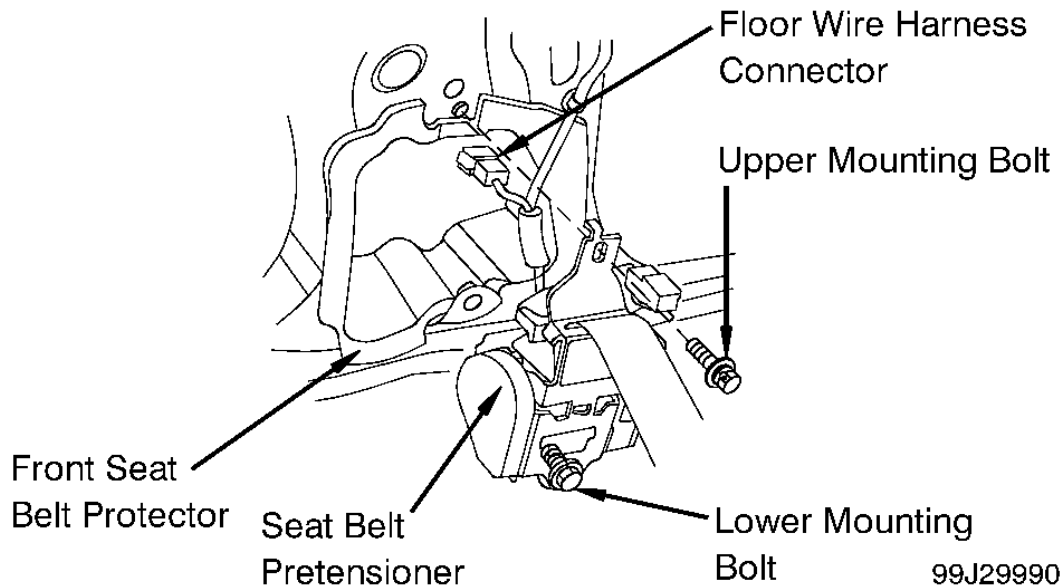

Fig. 24: Identifying Front Seat Belt Pretensioner
1. Before proceeding, see **AIR BAG SAFETY PRECAUTIONS** . Position appropriate front seat fully forward. Disable air bag system. See **DISABLING SYSTEM** under DISABLING & ACTIVATING AIR BAG SYSTEM. Remove seat belt upper and lower anchor bolts. Remove lower B-pillar trim panel. Disconnect side wire harness connector from seat belt pretensioner connector. See **Fig. 24** . Remove seat belt pretensioner mounting bolts and pretensioner.